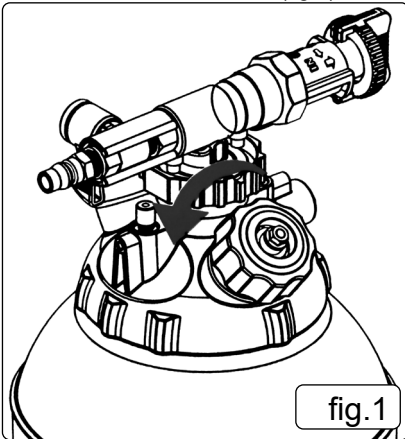

fig.1
4.1.1. Open the fluid inlet cap. (fig.1)